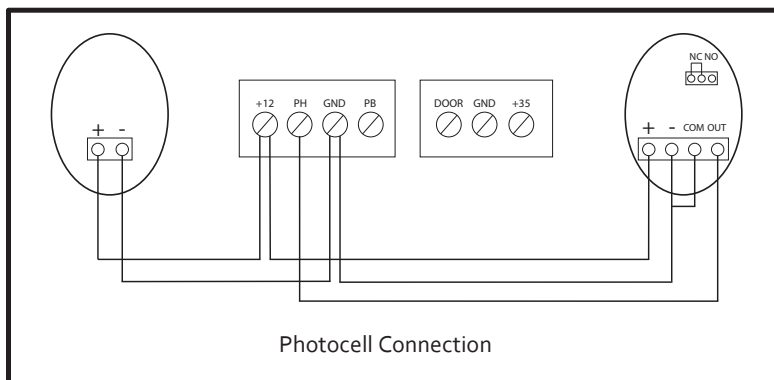

Fig. 15
**Note:** Make sure that the photocell is properly installed and connected to the NC contacts of the terminal strip (Fig. 15).